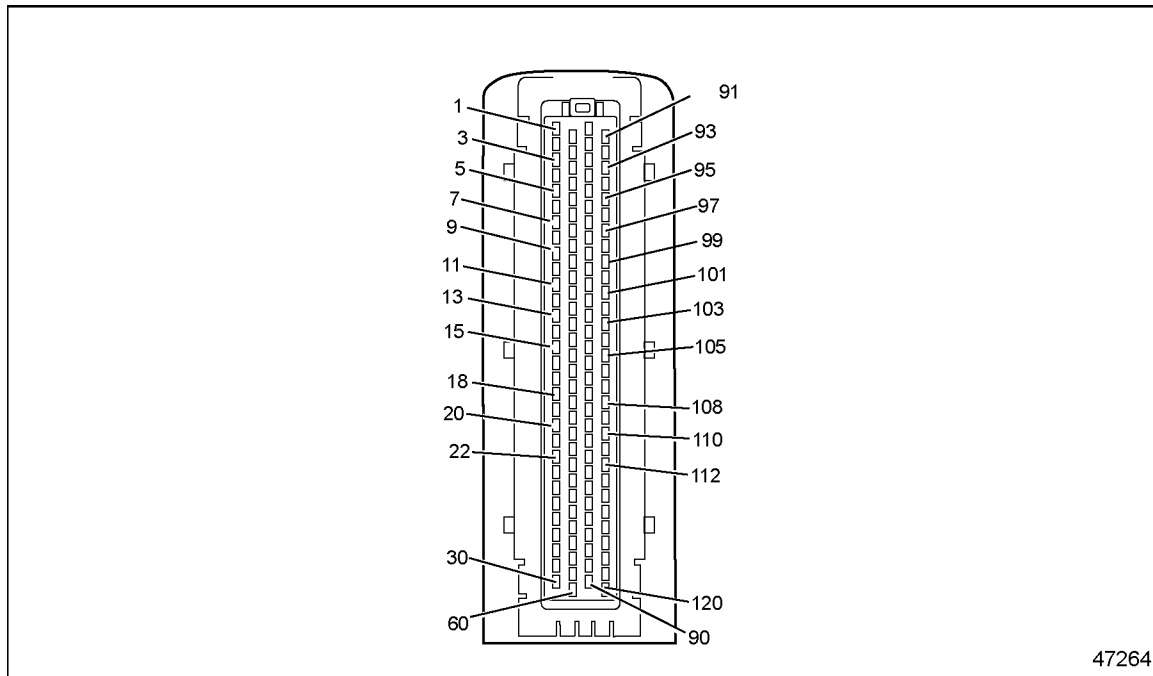

Figure 63-1 120-pin MCM Connector
- [a] If voltage is present, repair the short to power between pin 3 of the Rear Injector Harness 12-pin connector and pin 17 of the 120-pin MCM connector. See Figure 63-1. Refer to section 63.1.1.1.
- [a] If voltage is present, repair the short to power between pin 5 of the Rear Injector Harness 12-pin connector and pin 19 of the 120-pin MCM connector. See Figure 63-1. Refer to section 63.1.1.1.
- [a] If voltage is present, repair the short to power between pin 9 of the Rear Injector Harness 12-pin connector and pin 21 of the 120-pin MCM connector. See Figure 63-1. Refer to section 63.1.1.1.